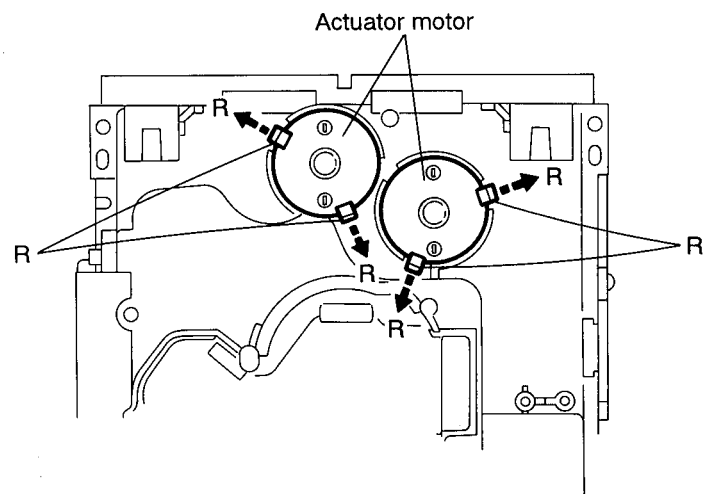

Fig. 2-30
5. After turning over the chassis assembly, remove the actuator motor while spreading the four pawls (R) fixing the right and left actuator motors in the arrow direction (See Fig. 2-30).